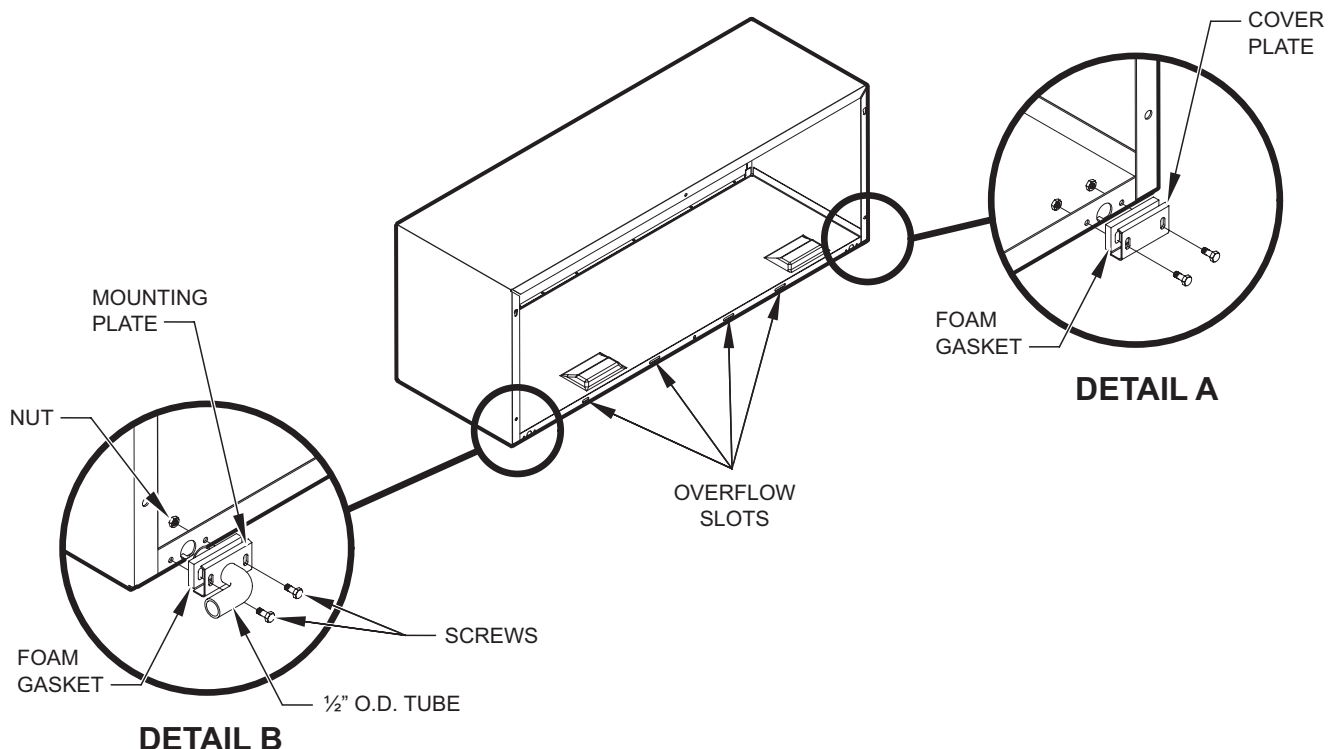

Figure C.4.2 (External Drain Kit Installation)
3. Remove the backing from the gasket and mount it on the flat side of the mounting plate. (See Figure C.4.2). Insert the drain tube through the hole in the gasket and mounting plate so the tube flange will be
6. Referring to C.4.2 locate and assemble the (2) two cover plates and gaskets over the drain holes at the rear of the wall sleeve. Attach them with the #10 sheet metal screws provided. Make certain that the four overflow slots at the rear of the wall sleeve are not blocked (See drawing of the back of the sleeve Figure C.4.2).
If the wall sleeve has not been installed, the drain tube must be rotated to a horizontal position until after the sleeve is installed. Tighten the mounting plate screws when the tube is in the proper position. Make certain that the four overflow slots at the rear of the wall sleeve are not blocked (See Figure C.4.2).
2. From inside the building, position the wall sleeve in the opening and push it into the wall until it protrudes at least 1/4" on the outside. Do not allow sleeve to be pulled. (See Figure C.4.2).